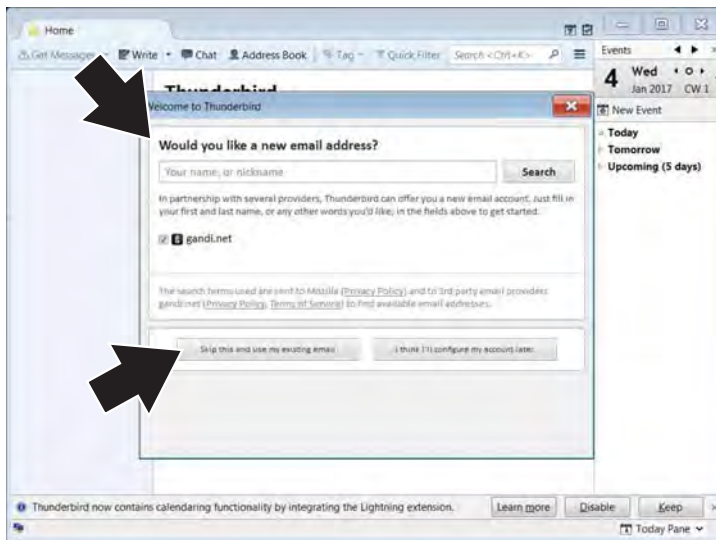

Figure 10-12
4. Choose to use your existing email address, or create a new email address with the email client (Figure 10-12).